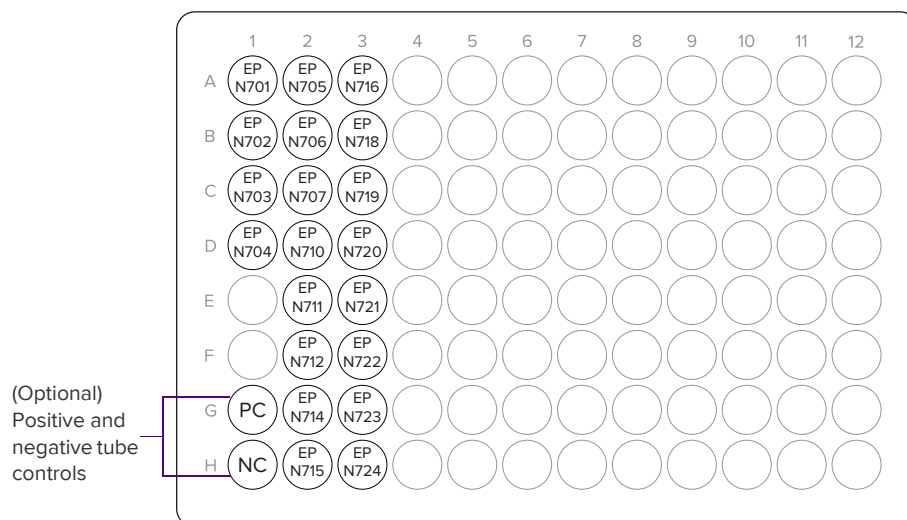

Figure 9. Index Primer pipette map and index assignment
- NOTE** We recommend that you maintain the same 20-well layout for tracking purposes (see Figure 8 on page 39 and Figure 9 on page 46). If you customize the Library Prep plate layout, track the positions carefully.
2 Add primers to the Library Prep plate (see Figure 9):